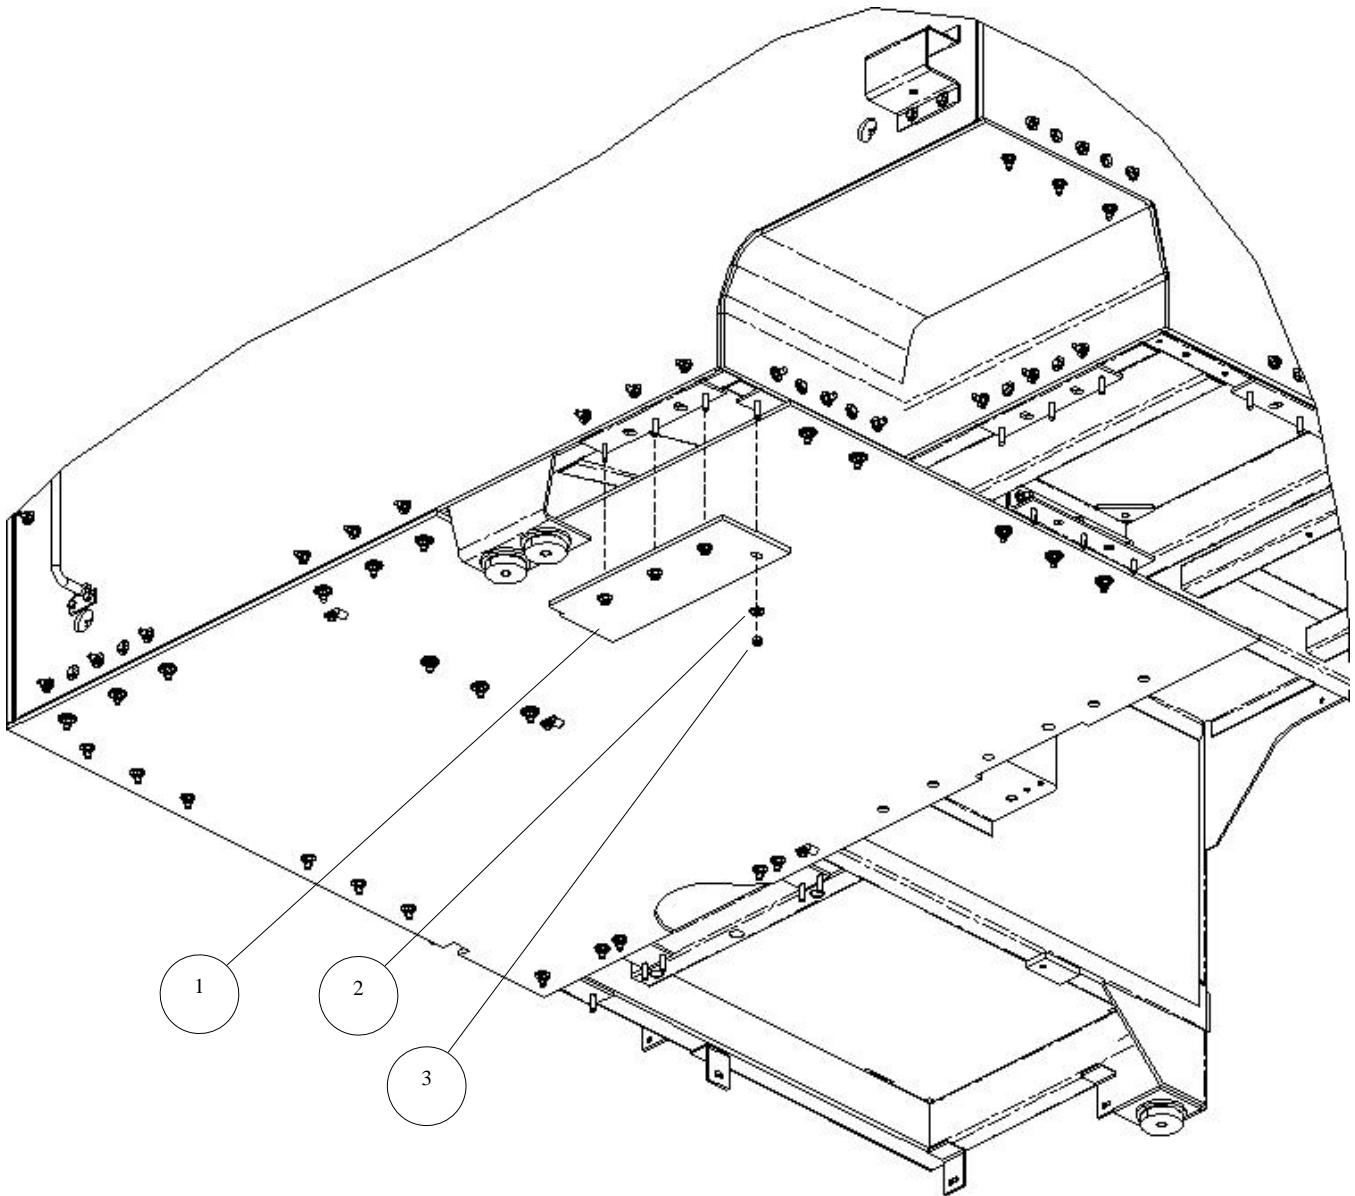

Figure 3-38. Center-Rear Mine Blast Panel Installation.
7. Install center-rear mine blast panel as follows (see Figure 3-38):
- a. Install center-rear mine blast panel (1) and secure with four flat washers (2) and locknuts (3). Torque to 23 lb-ft.